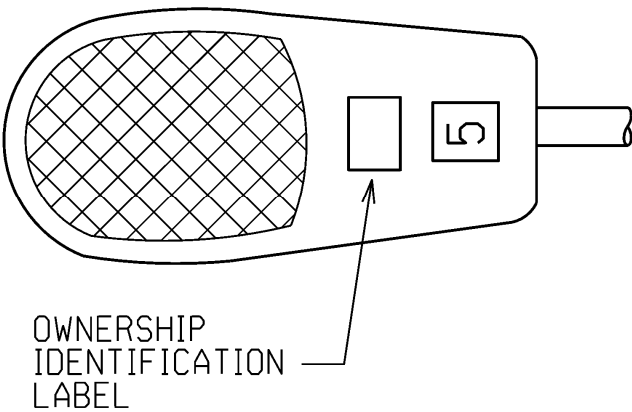

Figure 2 – Installation of Ownership Identification Label
- 1. Ownership identification label shall be installed on the lower door of a horizontal roadway luminaire such that it is clearly visible from the ground. See Figure 2.